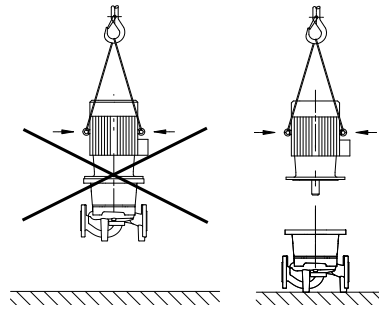

Fig. 16: Attaching the motor
- **Only use lifting eyes on the motor for carrying the weight of the motor and not for carrying the entire pump (Fig. 16).**